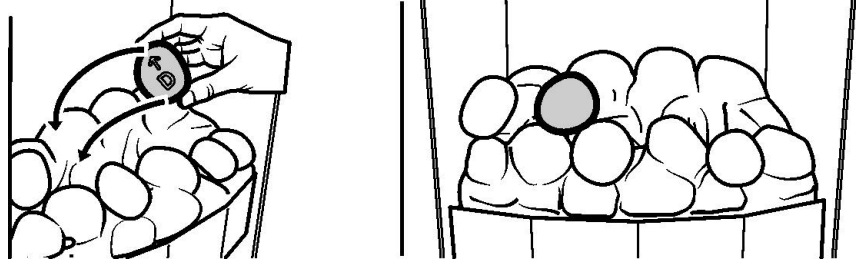

Figure 6.
6. Hold pebble 'D' upright with the arrow pointing to the top. Place pebble "D" between the front and rear base pebbles. It should bridge the gap between the front and rear base pebbles (See figure 6).